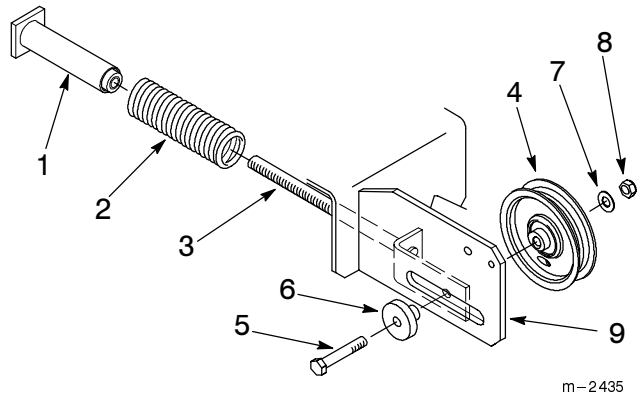

Figure 3
1. Remove flat idler pulley from idler slide rod in snowthrower. Retain hardware to attach new flat idler pulley onto new slide in adapter kit (Fig. 3).
2. Remove retainer, spring and rod from idler assembly in snowthrower by unscrewing the large square retainer at the end. (Fig. 3).
2. Transfer the new flat idler pulley from kit onto the rod in kit idler assembly using same hardware from pulley removed. (Fig. 3).
4. Push on spring retainer to check for free movement of rod in slot (Fig. 3).